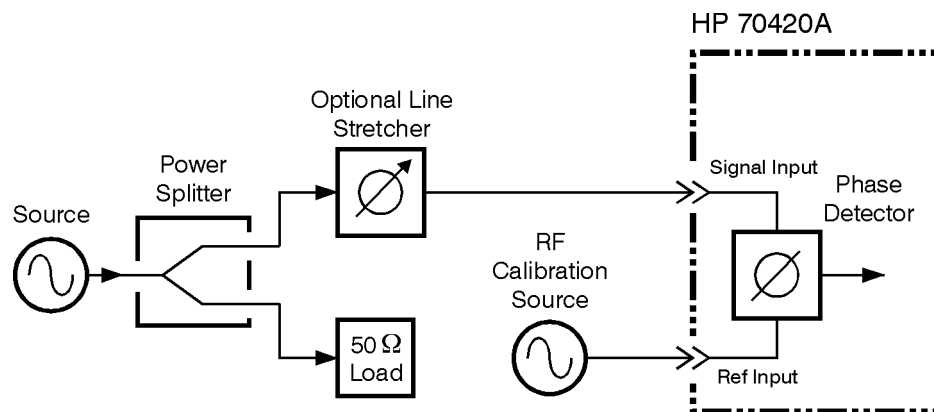

Figure 8-12 Calibration Source Beatnote Injection
- 3 Measure the output power at the side of the power splitter where the calibration source will be substituted, then terminate in 50 ohms. See Figure 8-12.